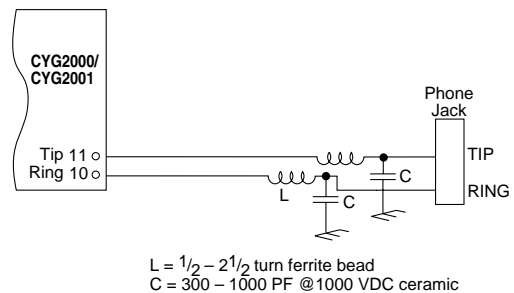

Figure 10. EMI Considerations
- Include a provision on your PCB design for a 1/2 turn ferrite bead and capacitor in your layout from the Tip and Ring terminals of the DAA to the telephone jack as shown in figure 10. This LC network will form a low pass filter that will roll off high frequencies. The decision to populate the board with these components will be based on the results of the radiated emissions coming out of the telephone line during FCC testing.